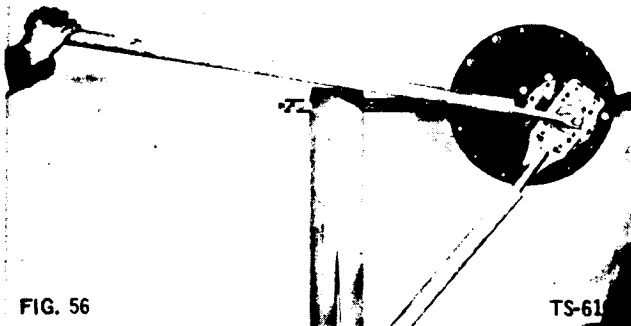

FIG. 56
- If axle is not equipped with parking brake, companion flange nut should be loosened now to facilitate flange removal later. Position socket on flange nut and then install flange retainer tool with two spacers between tool and flange. Spacer dimensions are given in Fig. 30. Loosen flange nut (Fig. 56).
- If axle is not equipped with parking brake, remove shaft nut that was loosened as shown in Fig. 56. Remove washer. Remove companion flange from pinion shaft with puller (Fig. 61). If companion flange was removed to provide access to parking brake and reinstalled to facilitate handling differential, it can probably be removed by hand.